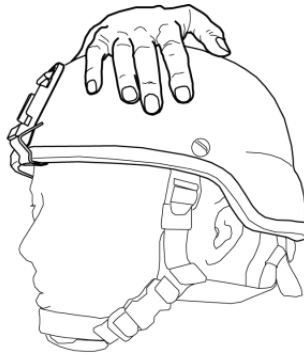

Figure 3. Hand on Top of Helmet.
5. Hold helmet in place, with one hand on top of helmet while adjusting helmet chinstrap with the other hand as shown in Figure 3.